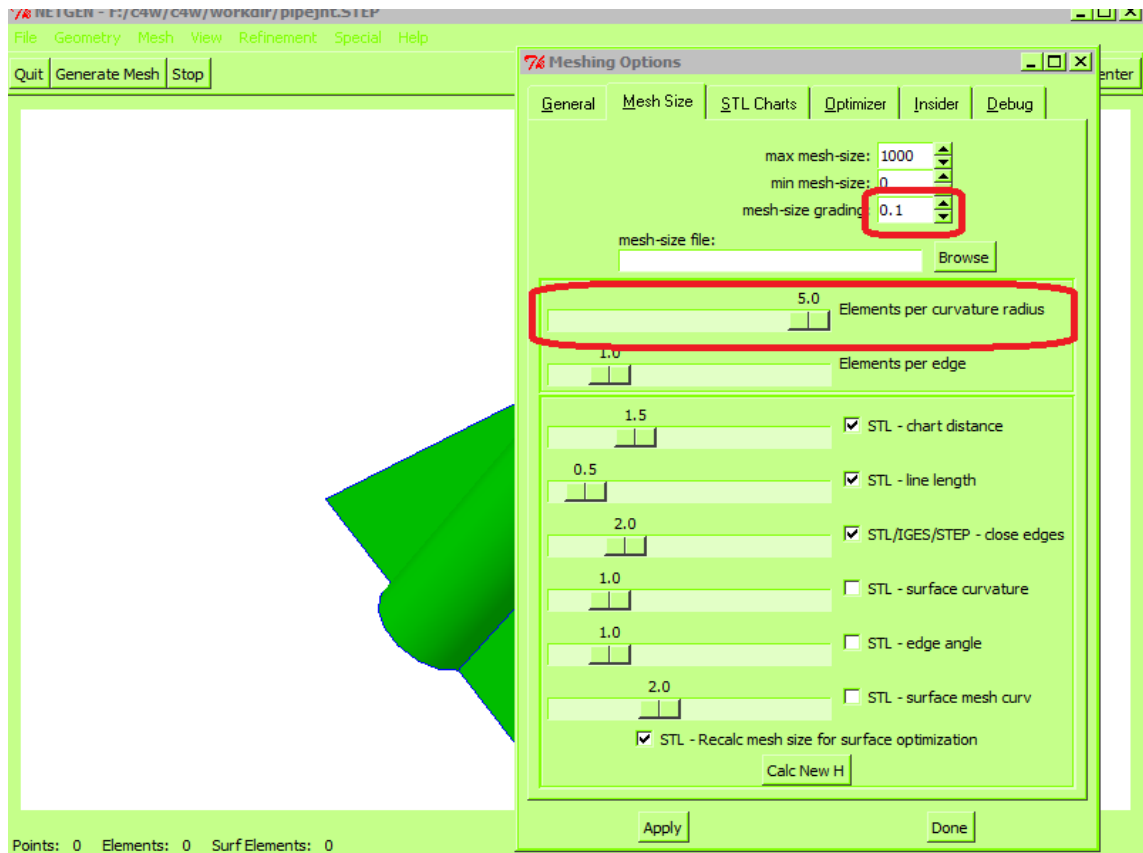

Fig. 5 Netgen Meshing Options
2. Change meshing options (fig. 5) to make more elements at curved parts (rough quadratic elements may cause negative Jacobian. Also you can export the mesh to GMSH format and check Jacobian with plug-in at GMSH program). Mesh model and set up “second order” after meshing (Refinement>Second Order). Save mesh as .vol file.